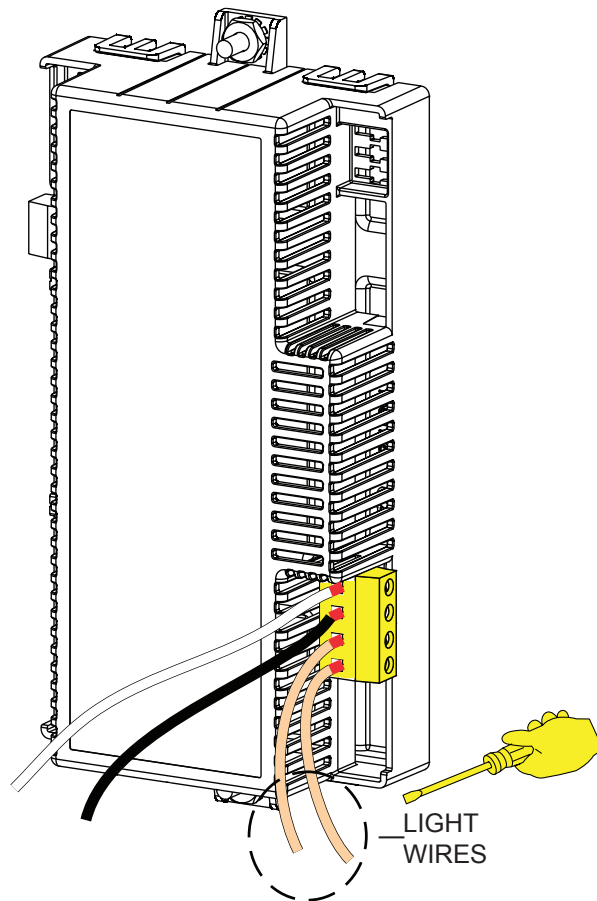
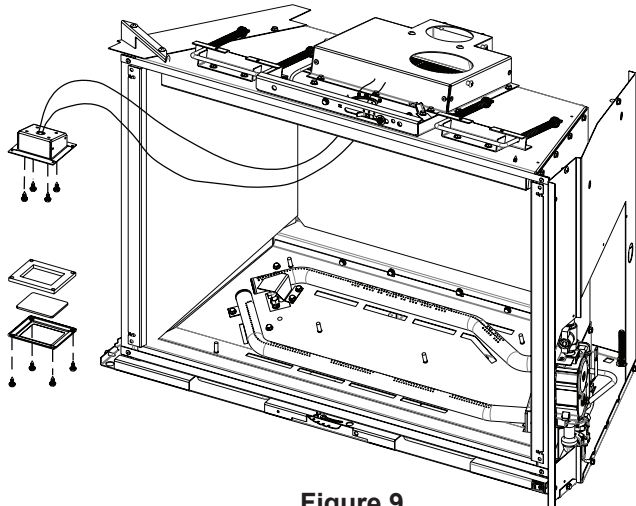

Figure 8
Figure 9
9. Remove 2 wires shown in **Figure 8.**
10. Remove 4 screws, bezel, gasket, and glass from light assembly. Remove 4 screws holding the light assembly to the firebox top and carefully remove it from the unit. Discard all of these items, they will not be needed. **See Figure 9.**
11. Re-install the new light assembly in reverse order of step 10. Use **Figure 9** as reference. Route wires to control module and attach. **See Figure 8.**